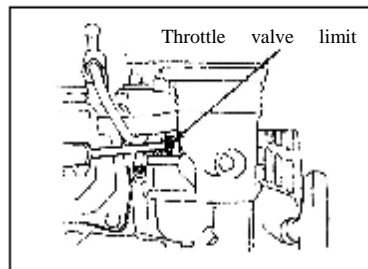

Figure 17
5. Idling adjustment of the carburetor(See Fig.17)
① Start the engine to warm it up to the normal temperature.
② When engine is idle running, adjust the throttle valve's limit screw to set the normal idling speed.